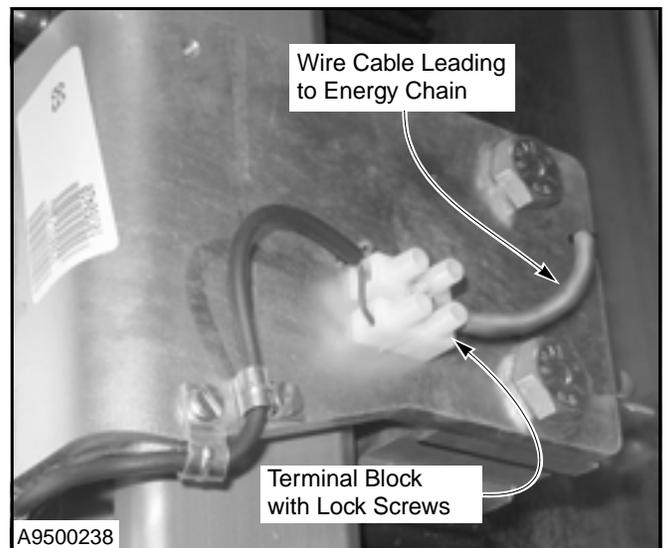

Figure 12
4. Check the wires from the E-chain cable and the reversing edge cable that go to the terminal block. Make sure that they are tight and secure. Inspect terminal block for damage and replace any missing or damaged hardware. (See Figure 12.)